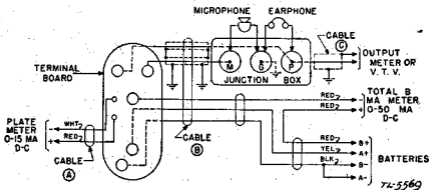

FIGURE 15.—Test equipment IE-15-A—harness connections.
67. **Test harness and meters.**—A special test harness cord supplied with the stand provides connections for the batteries, r-f amplifier plate current meter, total B current meter, audio output meter, earphone, and microphone. The schematic drawing of this harness is shown in figure 15. The 15-milliampere meter is used to measure the r-f amplifier plate current while the 50-milliampere meter is used to measure the total B battery BA-38 current. The terminal board attached to the harness provides a simple method of making the connections to the chassis.